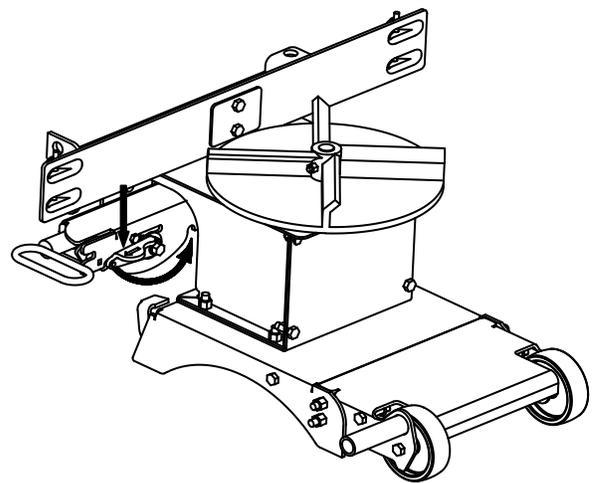

Figure 9. Lever Rotation G10599
4. Rotate attachment lever counter-clockwise to the "ON" position, refer to Figure 9.